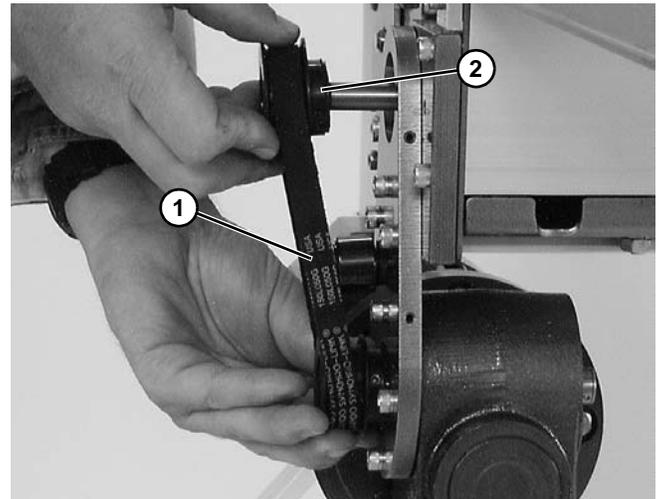

Figure 13
3. Remove timing belt (**Figure 13, item 1**).
If timing belt does not slide over pulley flange, loosen driven pulley set screws (Figure 13, item 2) and remove pulley with belt (Figure 13, item 1). For re-installation, see steps 6 and 7 on page 9.